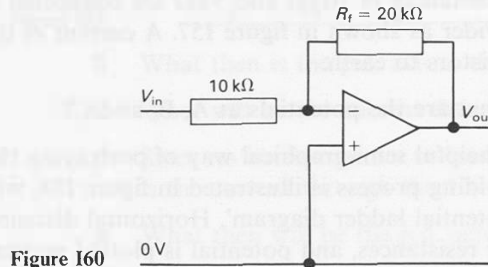

Figure I60
- e Draw potential ladder diagrams to represent (using two diagrams on the same axes) the changes in potentials in the operational amplifier circuit of figure I60, under the following conditions: